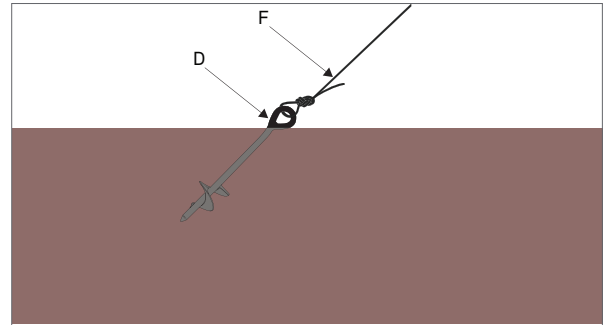

Figure 5 Guy rope screw (D) with rope (F) attached
1. Screw each guy rope anchor (D) in the soil at an angle aligned with a guy rope (F) coming off the guy rope ring (G).
2. Screw each anchor (D) into the soil at an angle that is the same as the angle the rope (F) comes from the guy rope ring (G).
3. Screw the guy rope anchors in until only a little of the top loop is showing (Figure 5).
Figure 5 shows what the anemometer mast (E) should look like when all three guy rope anchors (D) are secured.